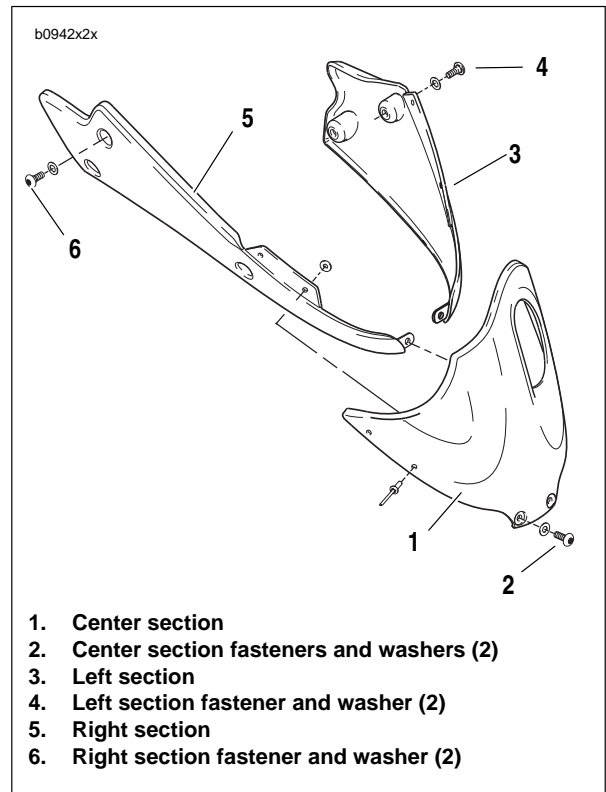

Figure 2-122. Chin Fairing
3. See Figure 2-122. Remove center section fasteners and washers (2).
4. Remove left section fasteners and washers (4).
5. Remove right section fasteners and washers (6).
1. See Figure 2-122. Position the assembled chin fairing (5) and loosely install right side fasteners and washers (6).
2. Install with left side fasteners and washers (4).
3. Align center section (1) and loosely install center section fasteners and washers (2).